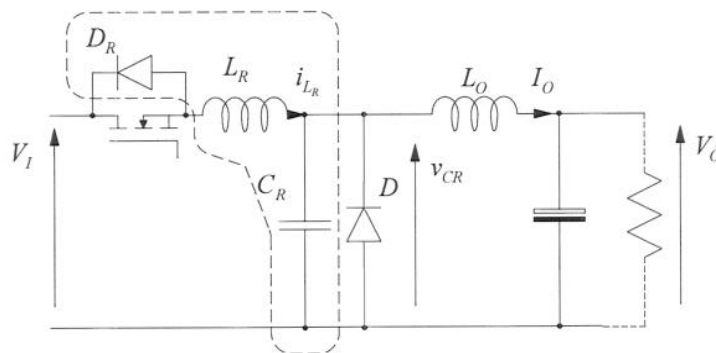
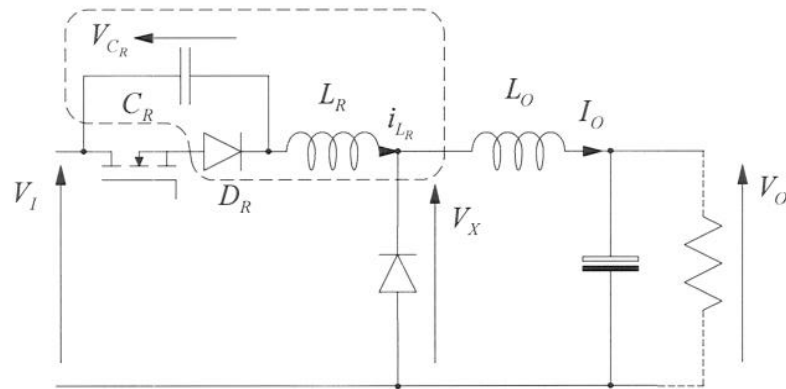

Figure Q4.3 Buck converter with 3 additional components
Figure Q4.4 Buck converter with 3 additional components in different configuration
- b) The circuit of Figure Q4.3 shows a buck converter, with 3 additional components added (inside the dotted line)
- d) The circuit of Figure Q4.4 shows a buck converter, with 3 additional components added (inside the dotted line) in a different configuration to Figure Q4.3.